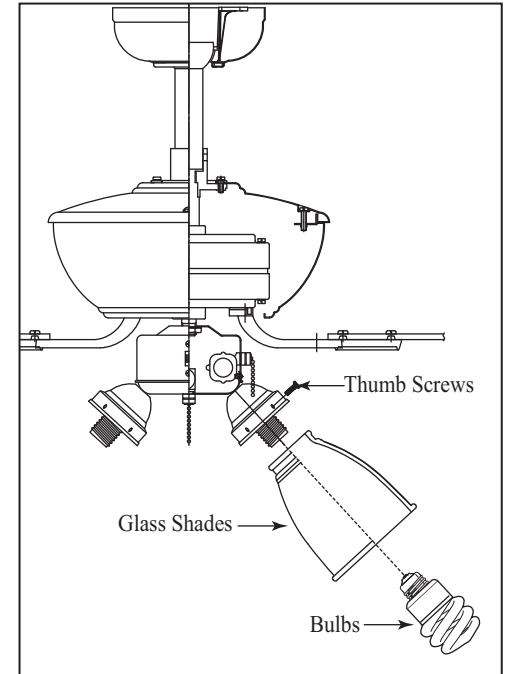

Figure 16
3. Mount the glass shades to the light fixture by unscrewing partway the thumbscrews on the glass holders, insert the glass, then gently tighten the thumbscrews by hand evenly to the glass. **DO NOT OVER TIGHTEN** (Fig. 16).